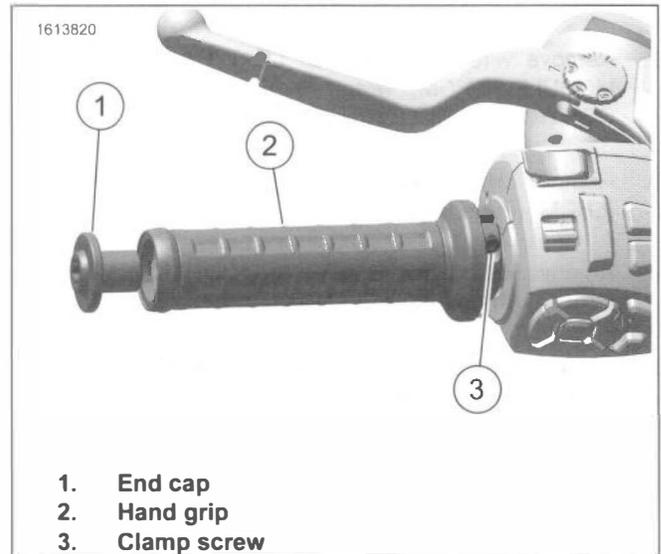

Figure 3-89. Left Hand Grip (typical)
1. See Figure 3-89 Remove end cap (1).
- a. Loosen clamp screw (3).
- b. Remove hand grip (2).
1. See Figure 3-89. Install hand grip.
- a. Place grip (2) in position.
- b. Tighten clamp screw (3).